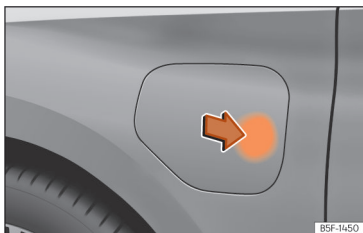

Fig. 60 Opening the charging socket cover.
- With the vehicle unlocked, the battery charging cover opens when the indicated zone is pressed »» Fig. 60.